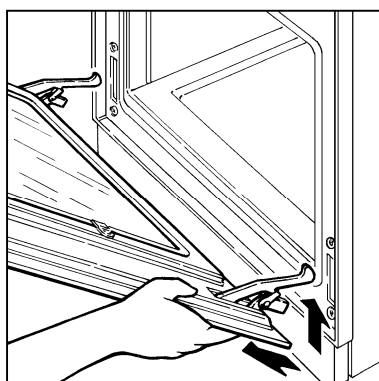

Fig. 5
- lift the door gently and withdraw it (Fig. 5).